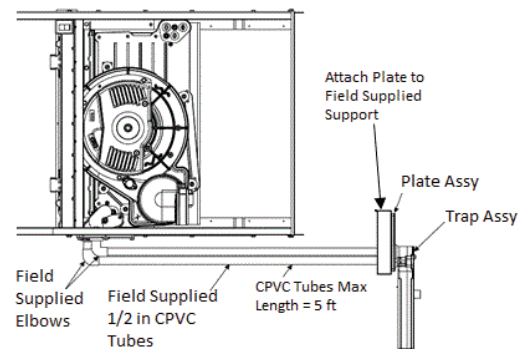

Fig. 23 – Alternate Horizontal Option - Remote Trap Condensate Drain Connection
3. Screw the adapter plate to the trap adapter using provided machine screw, see Fig. 23. Drilling pilot holes is recommended to better align the plate with the knockout opening.
4. Install the second trap plate at the remote location, 5 ft. or less away from the furnace, see Fig 23.
5. Using two field supplied 1/2-in. CPVC tubes of the desired length (5 ft. or less) and 2 field supplied CPVC elbows, run the drain from the adapter plate on the furnace to the remote adapter plate, see Fig 23.
6. Screw the trap to the adapter plate using provided machine screw, see Fig 23. Ensure trap is firmly secured and supported.